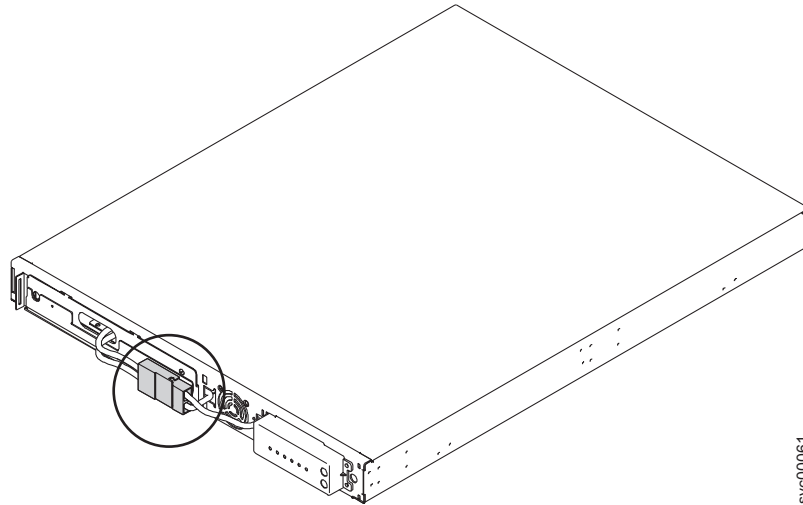

Figure 15. The 2145 UPS-1U internal-battery connector
5. Connect the internal battery connector (shown in Figure 15 on page 23). Each end of the keyed connector has two wires: one red (+) and one black (-). Align the connector so that the two red wires are joined together and the two black wires are joined together.